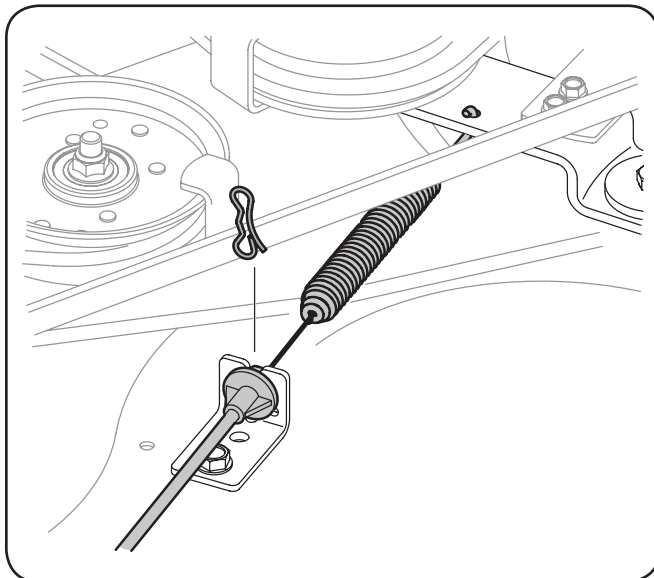

Figure 7-4
10. Carefully remove the deck engage cable from the rear of the cutting deck by removing the bow-tie cotter clip that secures it. Remove the spring from the deck idler bracket. See Figure 7-4.
- c. Reattach the deck engage cable. See Figure 7-4.